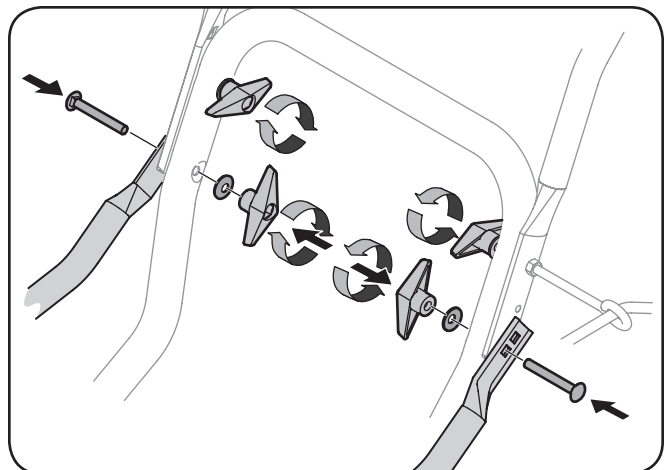

Figure 3-3
5. Secure the upper handle, support tubes and lower handle with the two wing nuts, bell washers and carriage bolts removed earlier. Tighten the two wing nuts already installed in the upper holes to firmly secure the upper handle and support tubes. See Fig. 3-3.